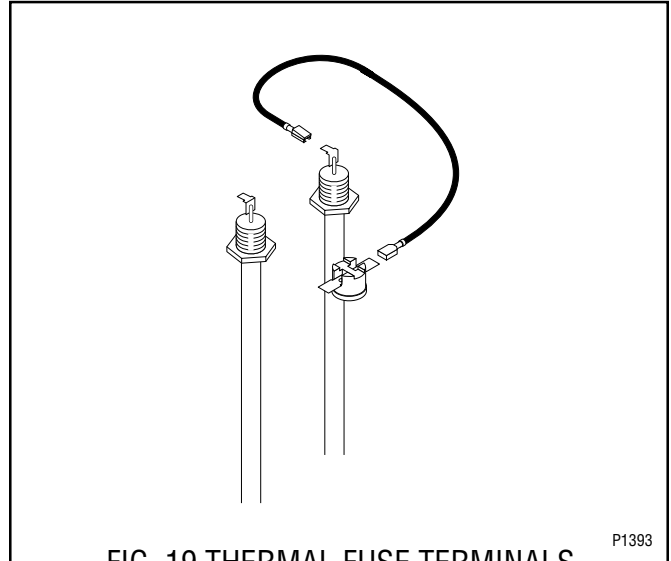

FIG. 19 THERMAL FUSE TERMINALS
4. Refer to Fig. 19 when reconnecting wires.